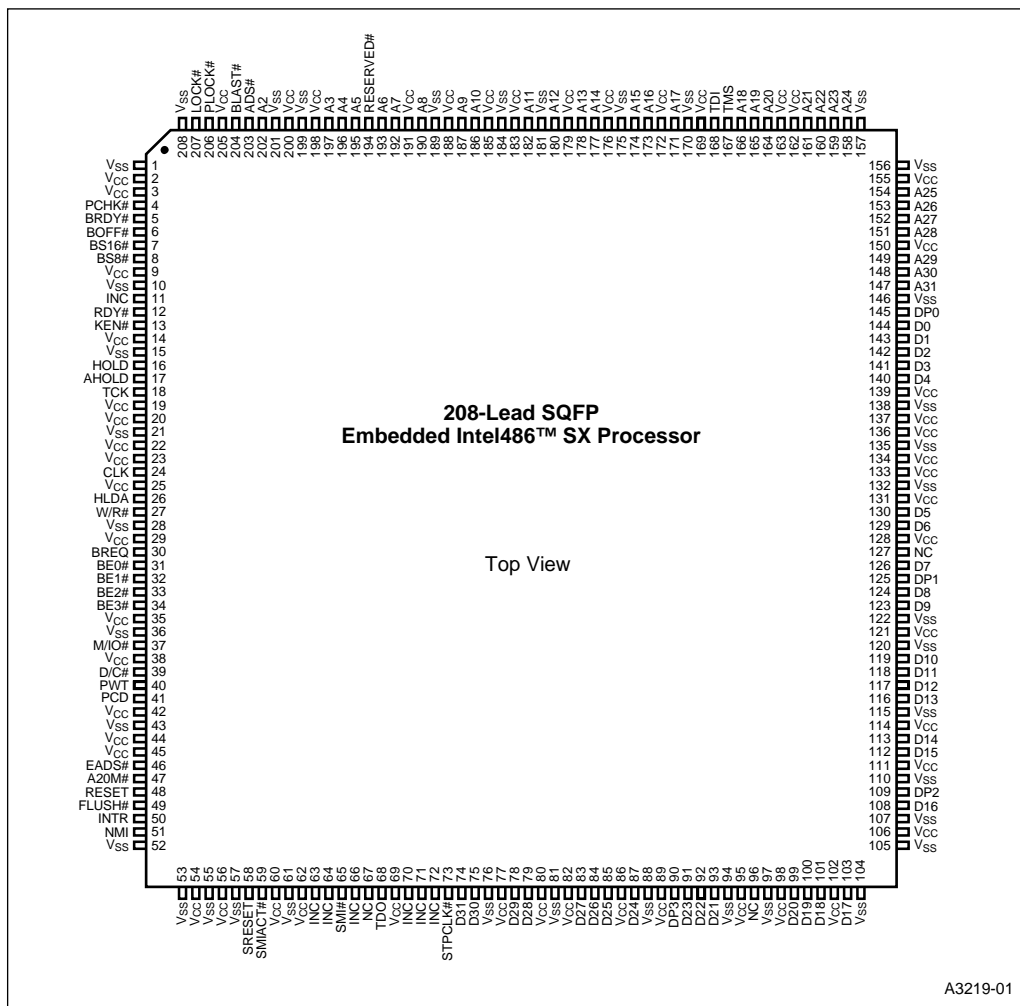

Figure 2. Package Diagram for 208-Lead SQFP Embedded Intel486™ SX Processor
- Figure 2, Package Diagram for 208-Lead SQFP Embedded Intel486™ SX Processor (pg. 4)